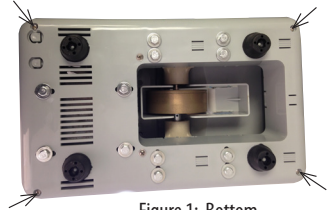

Figure 1: Bottom
1. Remove cover by removing the two screws on top under the upper water can and the four screws (figure 1) on the bottom of the unit as shown.